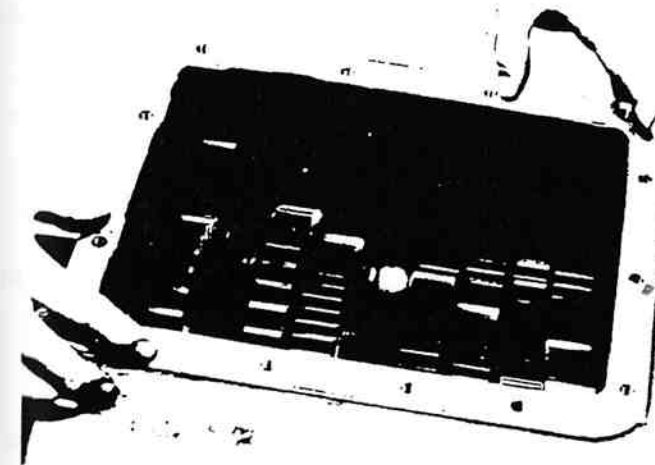

Figure 13-180. Installing Shift Bar Housing Gasket.
2. Apply white grease to new shift bar housing gasket and install in position on case (figure 13-180).